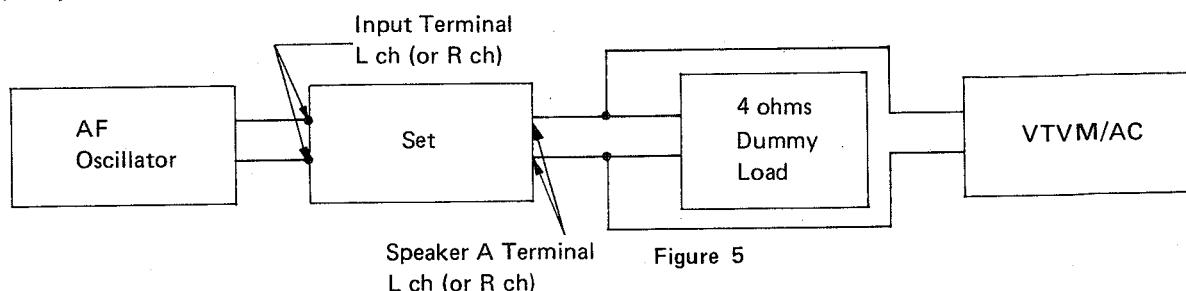

Figure 5
- (1) Connect test equipments as shown in Figure 5.
- (2) Short the input terminal with short pin plugs.
- (3) Adjust the SVR 501 (L ch), and SVR 502 (R ch) as the VTVM indicates 13.2mV DC.
- (1) Set the meter range selector of peak-power-indicator to $\times 0.1$ (■) position.
- (2) Set the speaker selector knob to SPEAKER A position.
- (3) Connect test equipment as shown in Figure 5.
- (4) Control the output of AF oscillator as the VTVM indicates 4.47V AC.
- (5) Adjust the indication of peak-power-indicator to be 0 db(5W) with SVR701 (L ch) and SVR702 (R ch).